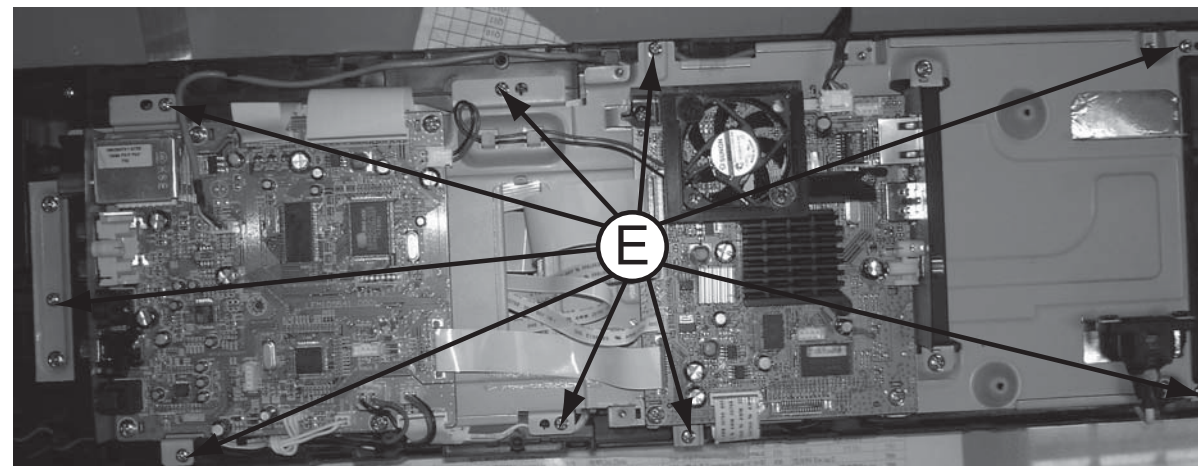

Figure 5
- 1) Loosen 9 screws "E" at the PCB bracket as shown in figure 5.